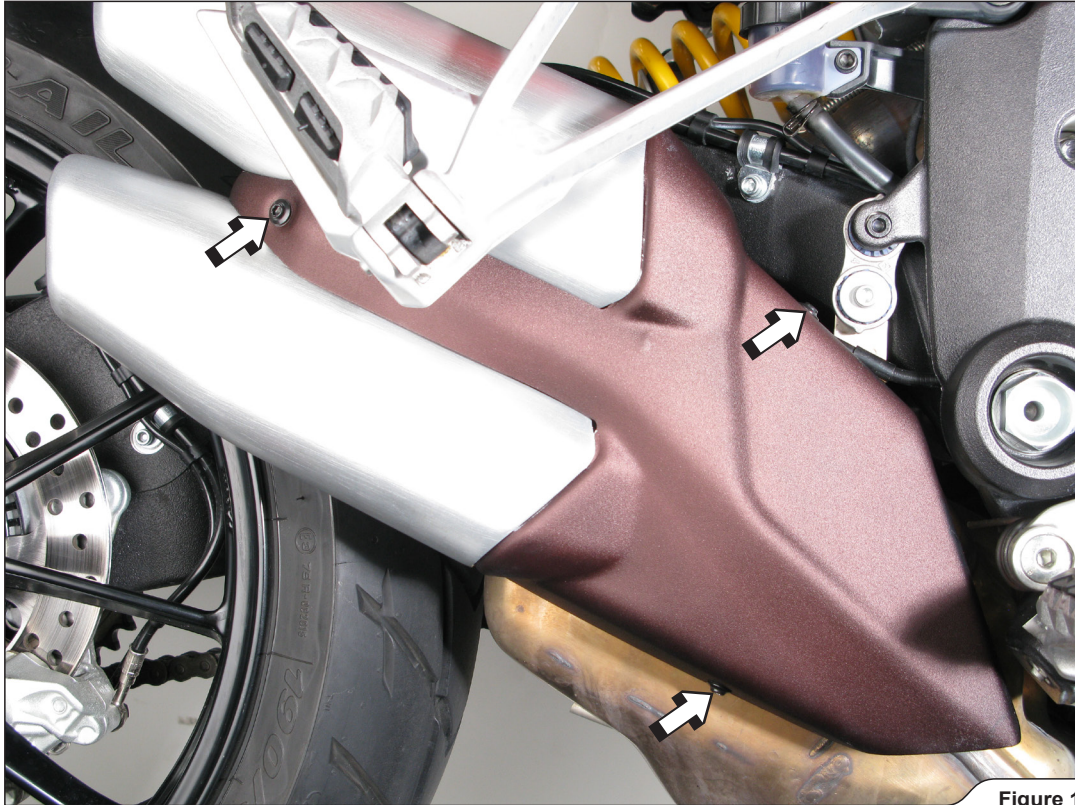

Figure 1
2. Unscrew the marked bolts and remove the stock muffler's heatshield (**Figure 1**).